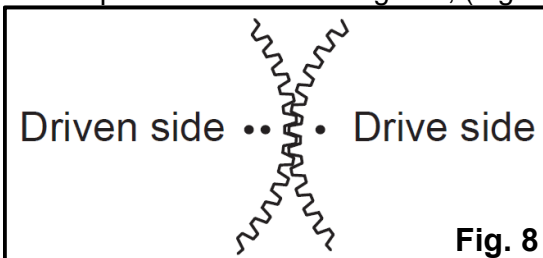

Fig. 8
- 4) Insert the drive shaft (2) into the vibrator case.
- 5) Insert the inner race of drive shaft (2) pulley end into the outer bearing pulley side while aligning the punch marks of both gears, (Fig. 8).